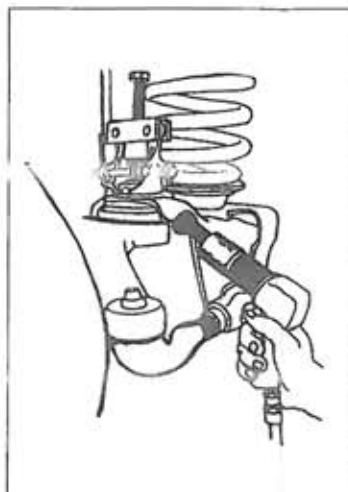

Figure No. 3
5. Break the lock between the tapered ball joint stud and the bushing by striking a solid hammer blow (repeat several times) or by using vibrating action of an air hammer against axle flange. (See Figure No. 3)